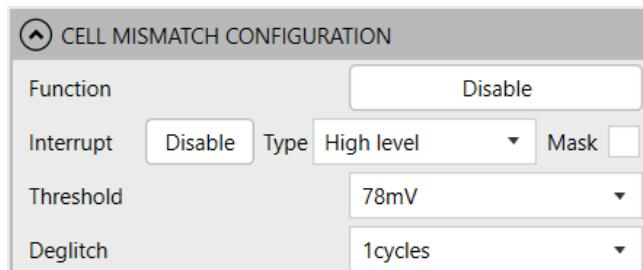

Figure 24: Cell Mismatch Configuration
19. Figure 24 shows how to configure the cell mismatch parameters.